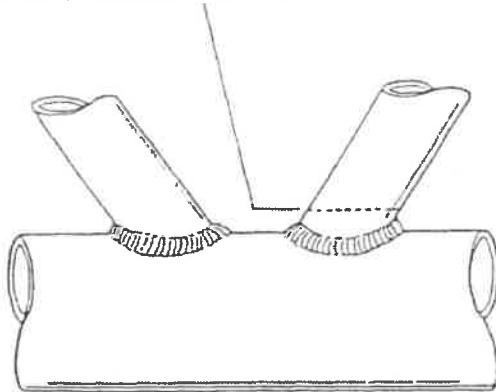
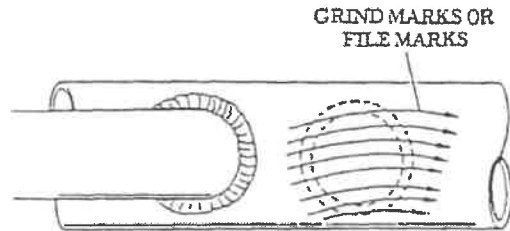
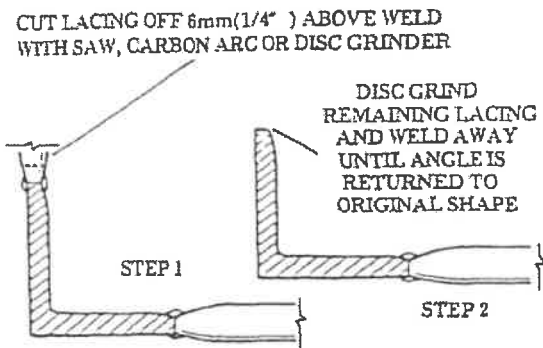

Fig. 2-8 Cutting Off Damaged Tubular Lacings
Fig. 2-9 Removing Remaining Material
Fig. 2-15 Removing Damaged Lacing
Grind or file the remaining weld bead flush with the cord, using extreme care not to notch the chord or nick it in any way (see Fig. 2-9).
3. Remove the remaining material. Grind marks should be parallel to the chord to minimize the possibility of damaging the chord (see Fig. 2-9).
Due to the location of the lacing being removed in Fig. 2-9, disc grinding the remaining 1.5 mm (1/16 inch) of weld is difficult, if grind marks are to be kept longitudinal to the cord. Therefore, a large file should be used to remove the remaining 1.5mm (1/16 inch) weld. If no other member interferes with grinding, a fine grit disc grinder should be used. Note the direction of the grind marks in Fig. 2-9.
1. Cut the lacing to be replaced off about 6mm (1/4 inch) above the weld, using a hacksaw, carbon arc torch, or disc grinder (see Fig.2-8 on page 2-7 and Fig.2-15 on page 2-10).
2. Disc grind the remaining lacing and weld material away until the angle is returned to its original shape (see Fig. 2-9 on page 2-7 and Fig. 2-15).